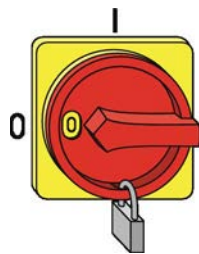

Fig. 10: Securing the mains isolator
2. ▶ Secure the mains isolator with a padlock ( Fig. 10 ).